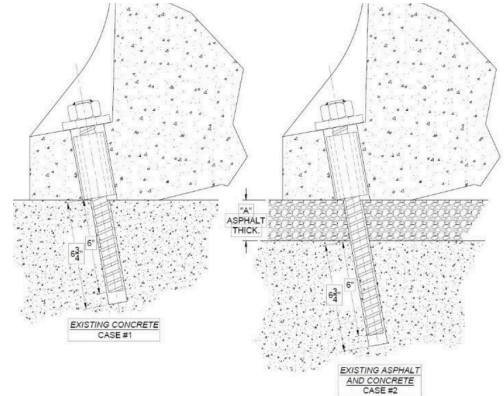

FIGURE 2
- 1 Place 1 ½" Ø x 4" sch. 80 pipe sleeve into bolt pocket. (see figure: 2)
- 2 Drill 1-3/8" hole for 1-1/4" threaded rod to allow 6" min. embedment into PCC/ Bridge Deck (for roadway/ bridge deck with AC topping, AC topping thickness is to be taken into consideration to achieve 6" min. embedment into PCC/ Bridge Deck. Ex. 6" min + AC thickness). (see figure: 2)
- 7 Install Anchor Bolt Assembly with square or round plate washer leaving 1 ½" Ø sch. 80 pipe inside bolt pocket. Ensure the Anchor Bolt Assembly is bottomed out and the hex head is recessed inside the bolt pocket. (see figure: 2)